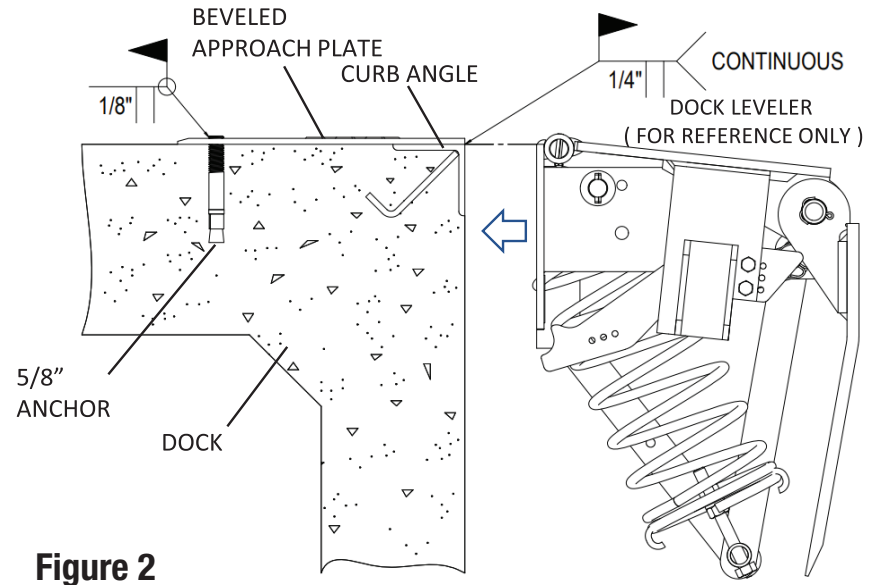

Figure 2
3. If beveled approach plate is used, skip to step 8. (See **Figure 2**)